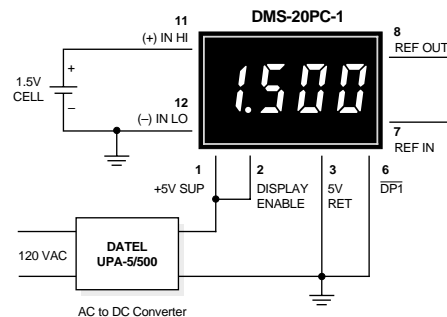

Figure 5. Floating Input Measurements
4. Floating Signal Source Measurements: Floating signals can be measured using the circuits shown in Figures 5 and 6. Connecting pin 10 (ANALOG COMMON) or pin 3 (5V RETURN)